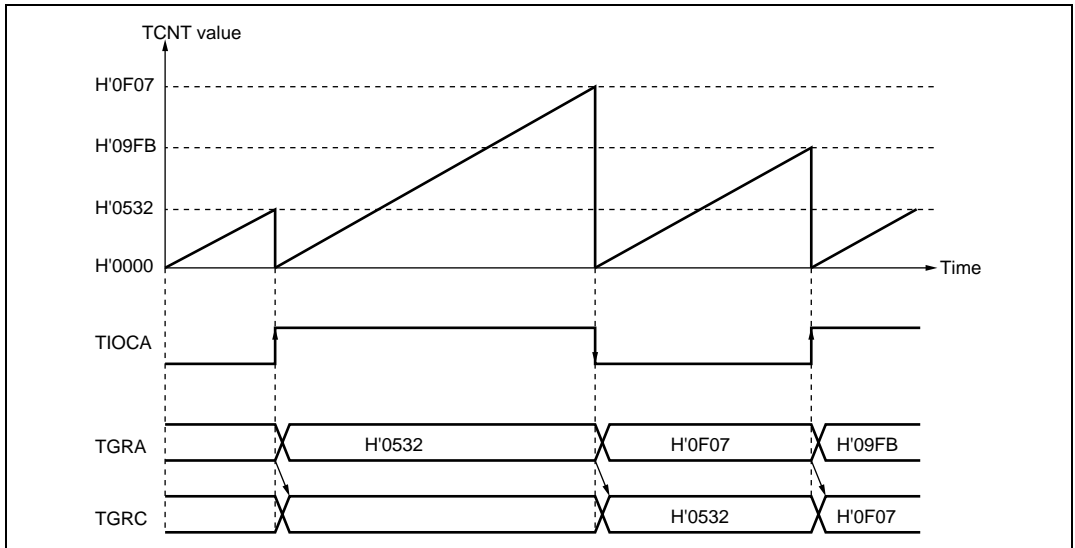

Figure 8.16 Example of Buffer Operation (2)
2. When TGR is an input capture register: Figure 8.16 shows an operation example in which TGRA has been designated as an input capture register, and buffer operation has been designated for TGRA and TGRC.